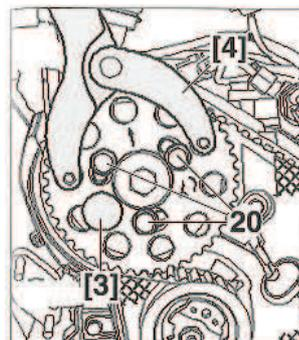

FIG. 3
- Lever for the camshaft pulley (FIG. 3) [4].
- Lock pin for the camshaft pulley (FIG. 3) [3].